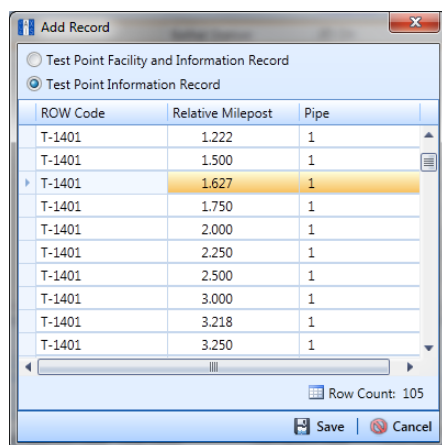

Figure 6-19. Add Record
- 5 Click  **Add** to open the *Add Record* dialog box. (Figure 6-19, page 180).
- 7 Select a facility record in the *Add Record* dialog box that you want to create a history record. For example, the facility record with *Relative Milepost 1.627* is selected in the following figure (Figure 6-19, page 180).